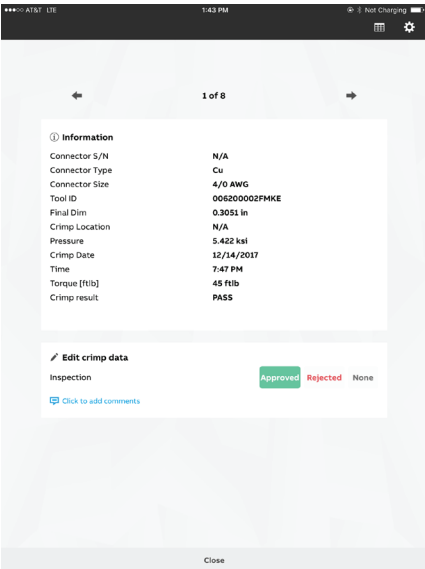

Figure 09
- Review crimp and under the **Edit Crimp Data** section, select **Approved**, **Rejected**, or **None** (Figure 09)